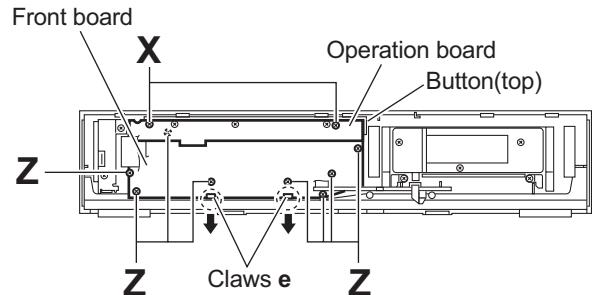

Fig.15
(See Fig.15)
(See Figs.15 and 16)
- (3) From the inside of the front panel assembly, remove the eight screws **Z** attaching the front board. (See Fig.15.)
- (4) Take out the front board while releasing the claws **e** in the direction of the arrow. (See Fig.15.)